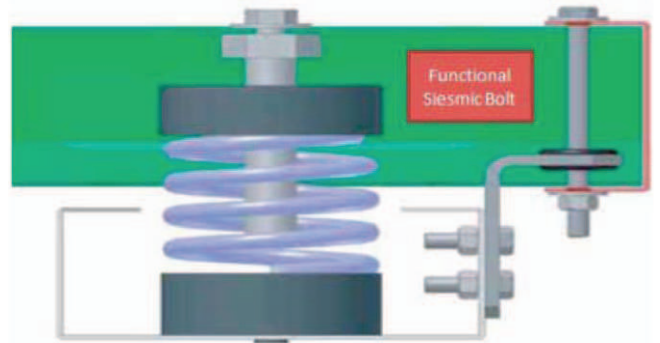

FIGURE 1 - SEISMIC ISOLATOR
- Do not remove the functional bolts from the seismic isolators as shown in *Figure 1 on page 14*.